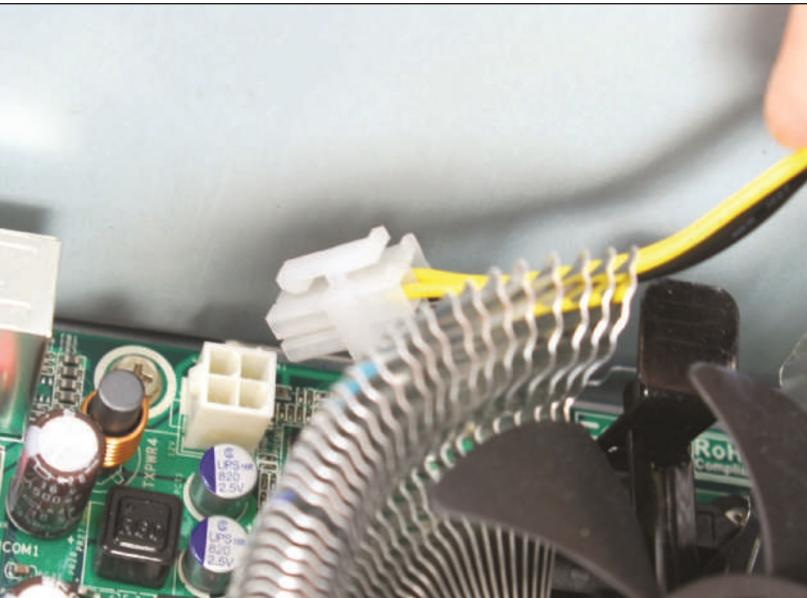

Figure 2-24 The auxiliary 4-pin power cord provides power to the processor
- ▲ Connect the 4-pin auxiliary power cord coming from the power supply to the motherboard, as shown in Figure 2-24. This cord supplies the supplemental power required for the processor.